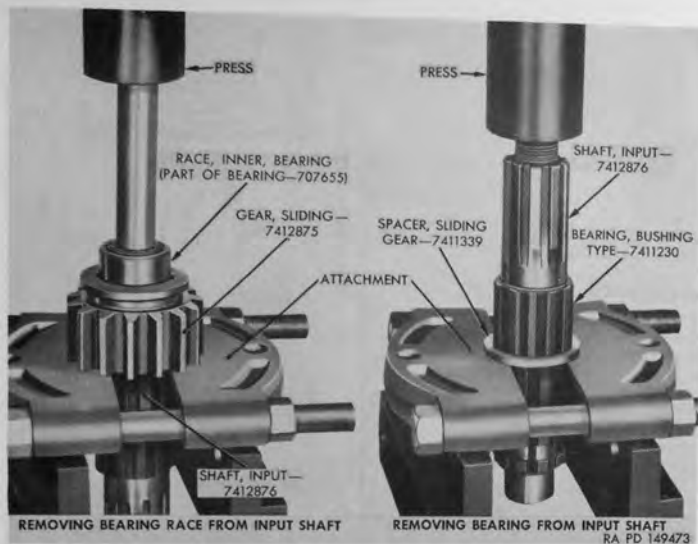

Figure 59. Removing bearing race and input shaft gear bearing from input shaft with attachment 41-A-345-328 (part of puller set 41-P-2905-60).
a. Place input shaft with sliding gear in arbor press supported on attachment 41-A-345-328 (part of puller set 41-P-2905-60) as shown in figure 59.
b. Using suitable driver under press ram, apply pressure at input shaft (M) to remove bearing inner race (N) from rear end of shaft.
c. Change position of input shaft assembly in press with sliding gear spacer (K) supported on attachment (fig. 59).
d. Press on front end of input shaft to force bushing type bearing (J) and sliding gear spacer (K) off input shaft.